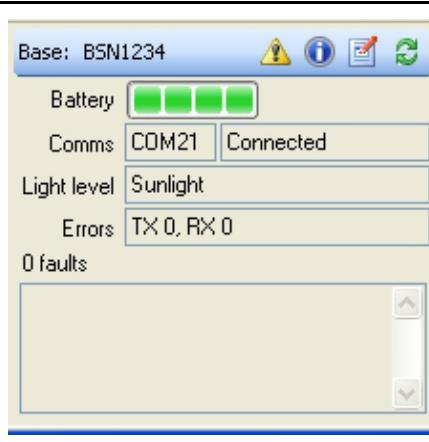

Figure 27 Base Station Sensor Node Detail Panel
- 10 Confirm that the Laptop PC is now communicating with the Sensor Node by checking in the bottom left hand of the C2 program that the status of the Base Station is now 'Connected' as shown in Figure 27.